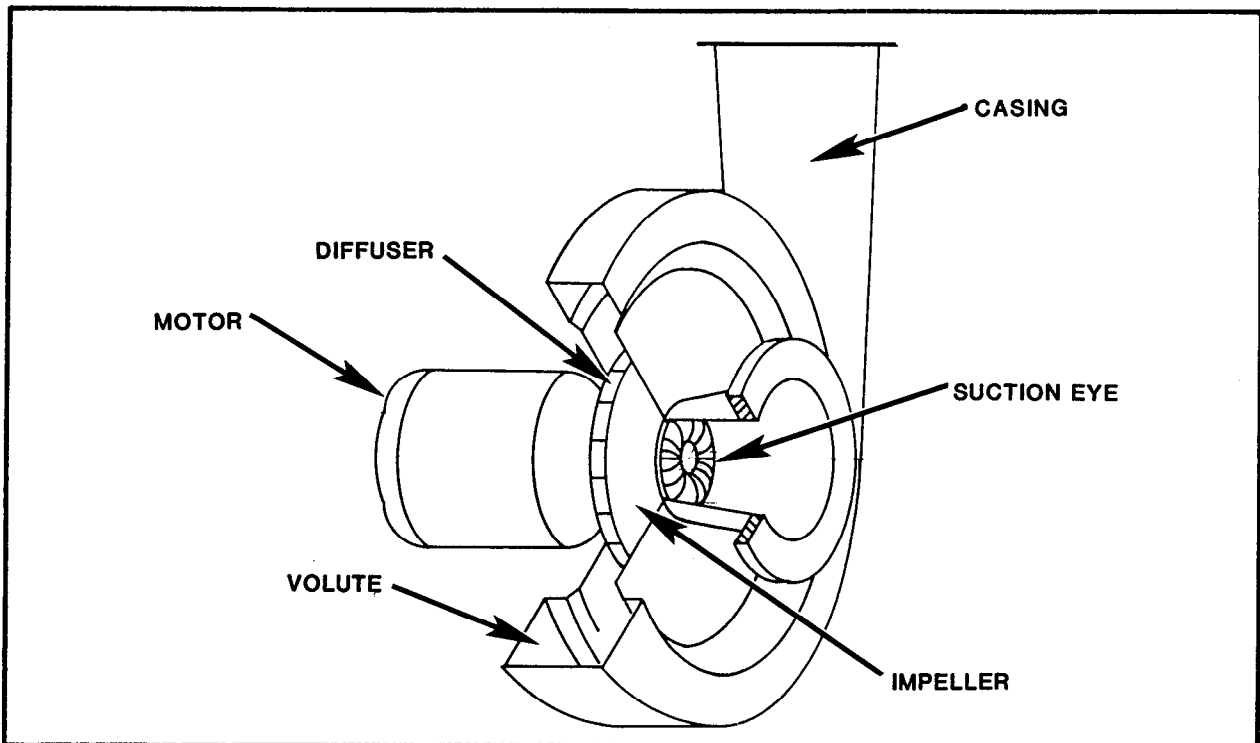
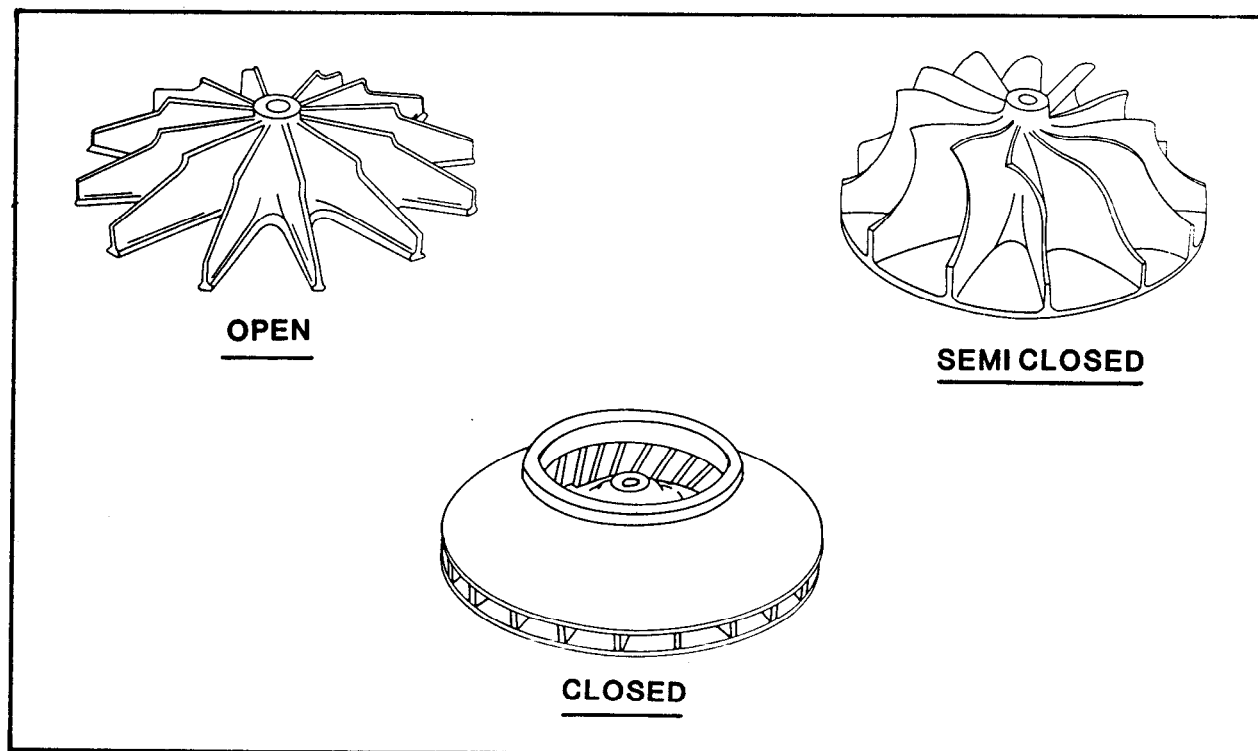

FIGURE 3-1. Simple Volute Pump
FIGURE 3-3. Impeller Design
1.1 Centrifugal Compressor. The major components of a centrifugal compressor are: impeller, shaft, casing, and diffuser/volute (figures 3-1 and 3-2). In the center of the impeller is the suction eye area, the center of low pressure when the impeller is rotating. Figure 3-3 illustrates three basic impeller designs. Air entering the suction eye is moved outward along the impeller blades by centrifugal force with increasing velocity. The air leaves the impeller through the diffuser to the volute where the air is slowed and the velocity component of the air mass is partially converted into pressure. In a multistage compressor the air exiting the volute is fed to another impeller-diffuser-volute series to further increase the air pressure.